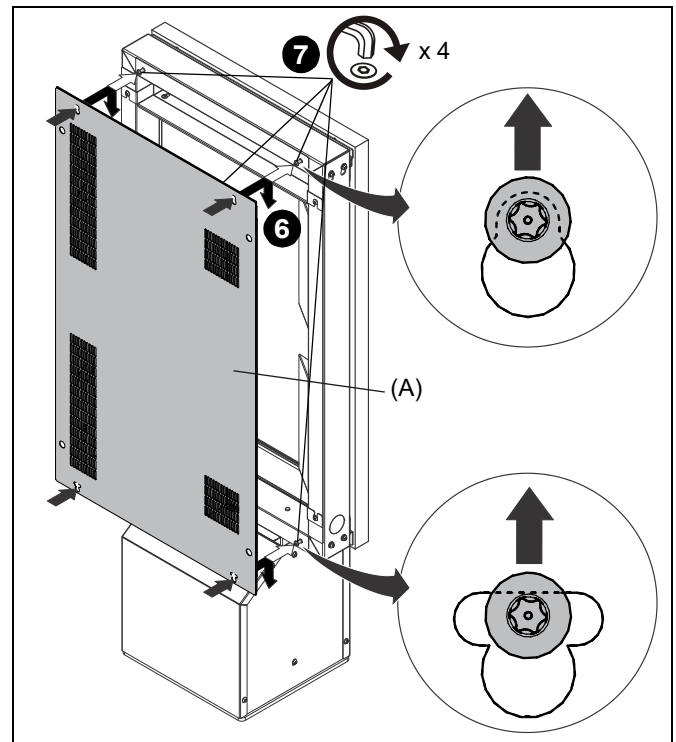

Figure 4
6. Place the rear cover (A) over the frame. Position the exposed screws through the four slots in the corners of the cover, then lower the cover and hang it on the screws. (See Figure 4)
7. Re-tighten the four M8 x 20mm security screws using the included T40 security hex key (C). (See Figure 4)